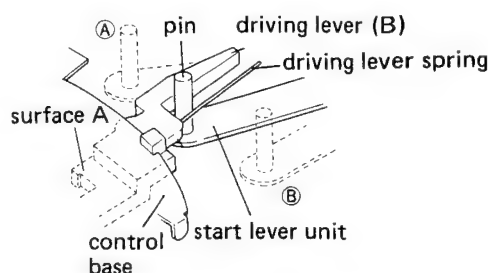

Fig. 1-2 Misaligned pin of start lever unit.
As shown in figure 1-2, if the start lever unit pin is out of line in the direction of ①, repeat will not operate. If it is too far in the direction of ②, the unit will not start. In these cases, assemble referring to the method of joining the panel and bottom panel (lid).